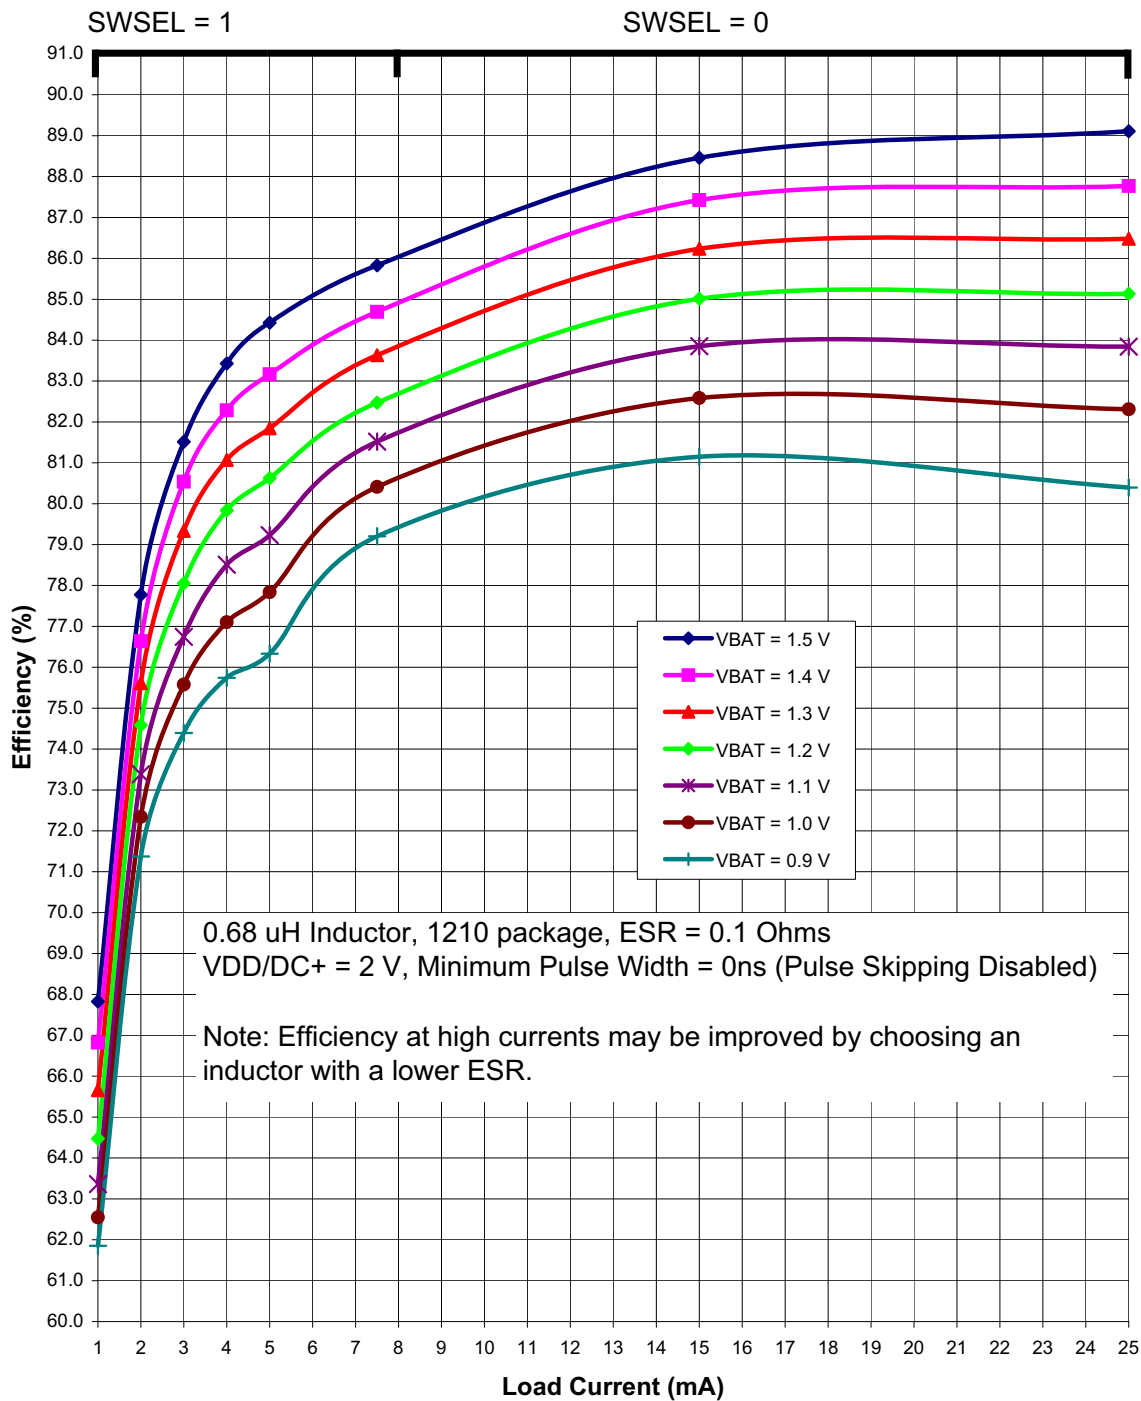
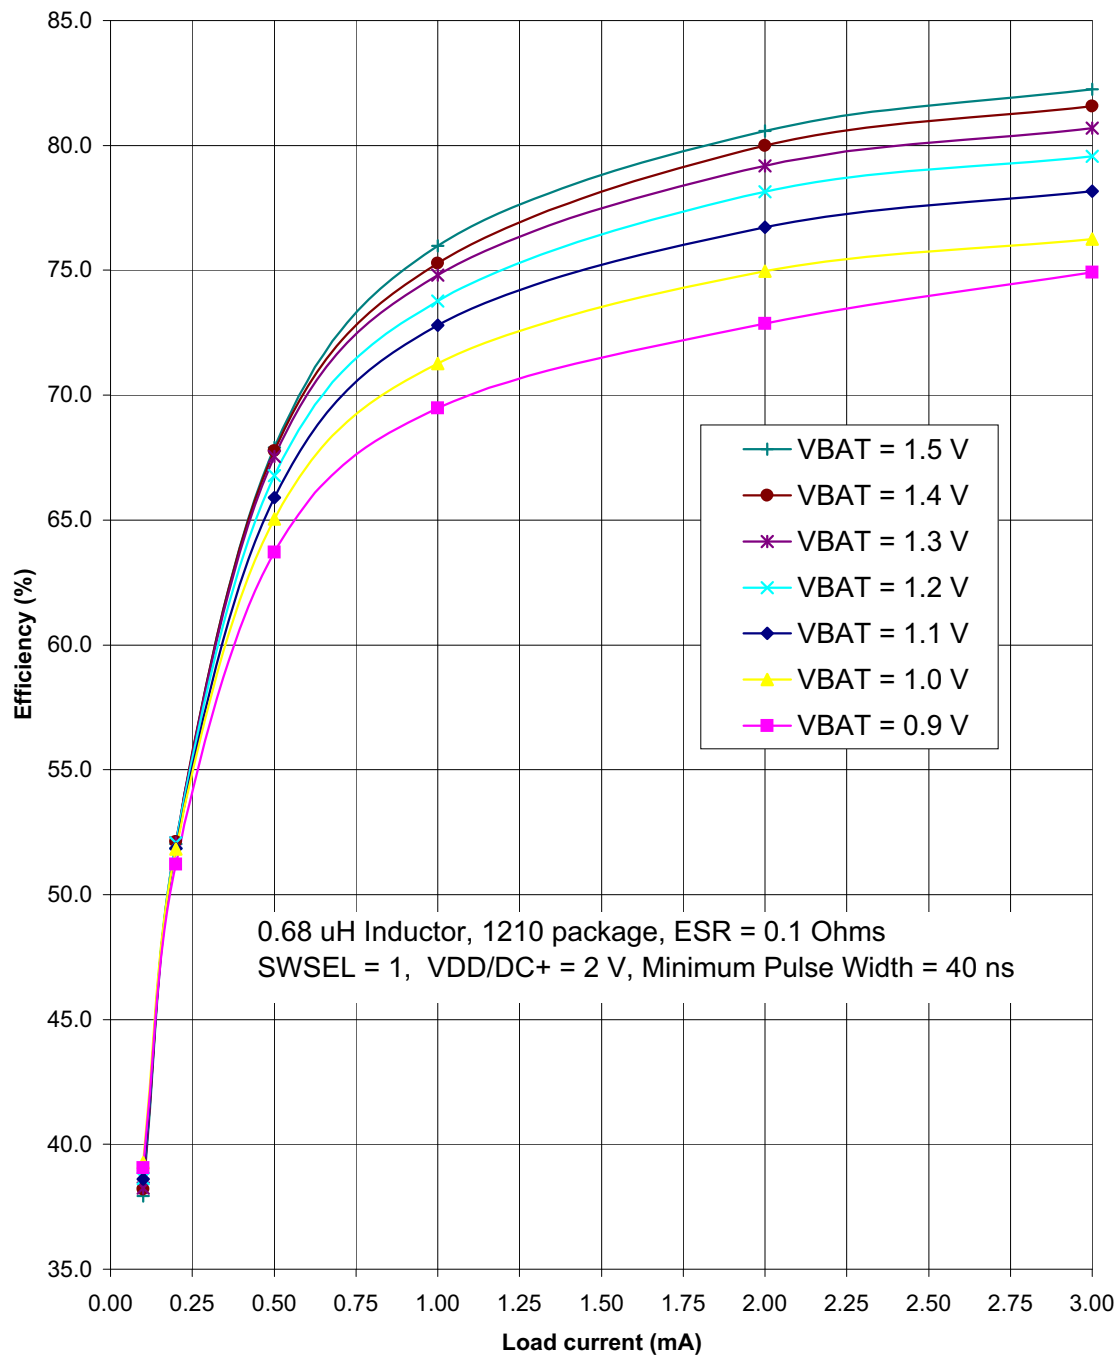

Figure 4.3. Typical DC-DC Converter Efficiency (High Current, VDD/DC+ = 2 V)
Figure 4.5. Typical DC-DC Converter Efficiency (Low Current, VDD/DC+ = 2 V)
Notes: <ol style="list-style-type: none"> Based on device characterization data; Not production tested. SYSCLK must be at least 32 kHz to enable debugging. Digital Supply Current depends upon the particular code being executed. The values in this table are obtained with the CPU executing an "sjmp \$" loop, which is the compiled form of a while(1) loop in C. One iteration requires 3 CPU clock cycles, and the Flash memory is read on each cycle. The supply current will vary slightly based on the physical location of the sjmp instruction and the number of Flash address lines that toggle as a result. In the worst case, current can increase by up to 30% if the sjmp loop straddles a 128-byte Flash address boundary (e.g., 0x007F to 0x0080). Real-world code with larger loops and longer linear sequences will have few transitions across the 128-byte address boundaries. Includes oscillator and regulator supply current. IDD can be estimated for frequencies ≤ 10 MHz by simply multiplying the frequency of interest by the frequency sensitivity number for that range, then adding an offset of 90 μA. When using these numbers to estimate I_{DD} for >10 MHz, the estimate should be the current at 25 MHz minus the difference in current indicated by the frequency sensitivity number. For example: $V_{DD} = 3.0$ V; $F = 20$ MHz, $I_{DD} = 4.1$ mA – $(25 \text{ MHz} - 20 \text{ MHz}) \times 0.120 \text{ mA/MHz} = 3.5$ mA. The Supply Voltage is the voltage at the VDD_MCU pin, typically 1.8 to 3.6 V (default = 1.9 V). Idle IDD can be estimated by taking the current at 25 MHz minus the difference in current indicated by the frequency sensitivity number. For example: $V_{DD} = 3.0$ V; $F = 5$ MHz, Idle $I_{DD} = 2.5$ mA – $(25 \text{ MHz} - 5 \text{ MHz}) \times 0.095 \text{ mA/MHz} = 0.6$ mA. The supply current specifications in Table 4.2 are for two cell mode. The VBAT current in one-cell mode can be estimated using the following equation: $\text{VBAT Current (one-cell mode)} = \frac{\text{Supply Voltage} \times \text{Supply Current (two-cell mode)}}{\text{DC-DC Converter Efficiency} \times \text{VBAT Voltage}}$ <p>The VBAT Voltage is the voltage at the VBAT pin, typically 0.9 to 1.8 V. The Supply Current (two-cell mode) is the data sheet specification for supply current. The Supply Voltage is the voltage at the VDD/DC+ pin, typically 1.8 to 3.3 V (default = 1.9 V). The DC-DC Converter Efficiency can be estimated using Figure 4.3–Figure 4.5.</p> The EZRadioPRO peripheral is placed in Shutdown mode.